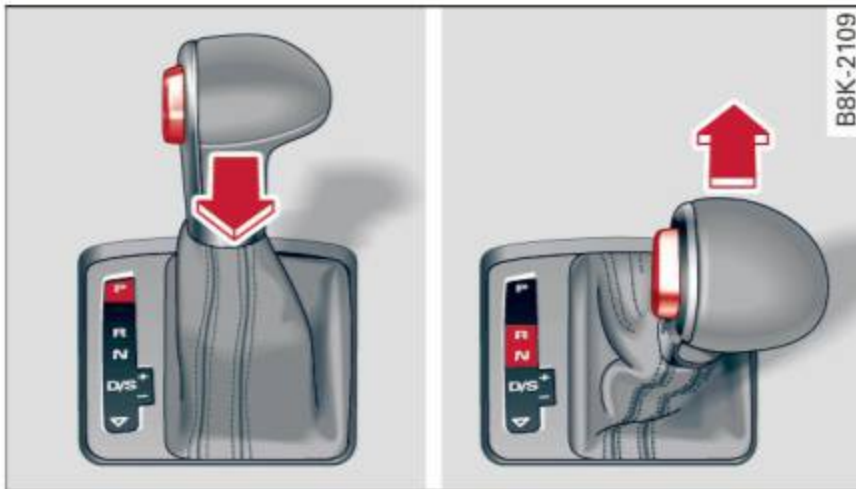

Fig. 86 Shift gate: selector lever lock positions and release button highlighted
- ▶ Step on the brake pedal. *At the same time* press and hold the release button on the side of the gear selector knob ⇒ fig. 86 with your thumb until you have moved the selector lever to the desired position.
The release button on the selector lever prevents the lever from being accidentally shifted into certain positions. Depending on the direction of the shift, the selector lever locks at different positions. The positions are highlighted in the illustration ⇒ fig. 86.